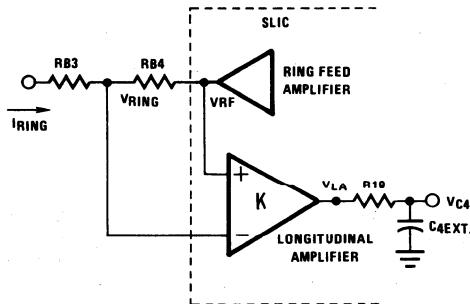

FIGURE 2.
For Case I, refer to Figures 2 and 3. In this situation the desired result is obtained, namely, that ring sync occurs during the negative peak of V_{C4} . This helps achieve ring trip faster because, once a subscriber goes off-hook, a negative DC shift is observed at V_{C4} . This shift approaches a comparator threshold in the ring trip detection circuit. If the negative peak of V_{C4} (AC) precedes the negative going DC shift at V_{C4} , one can achieve ring trip in a shorter time frame. Also this configuration allows ring trip to occur for long lines, in the order of 3000 ohms. At these line lengths, the DC negative shift will never reach the threshold because there is not enough DC current through the sense resistor, $RB4$. However, the negative peak of V_{C4} (AC) will cross the ring trip detector comparator threshold and ring trip will occur.